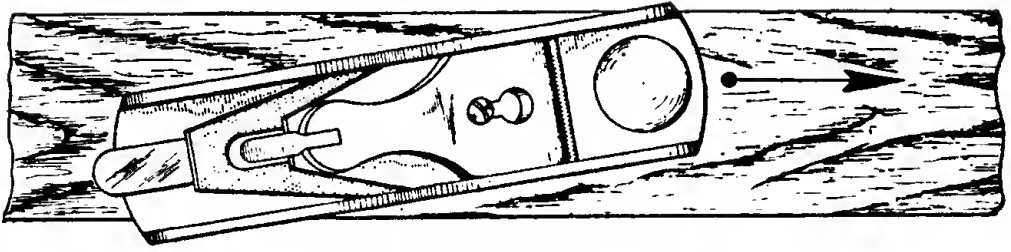

Figure 97. Position and direction of movement of a plane in use.
(2) A plane is used to smooth the surface of wood and work it down to a definite size. It is usually the last tool used before making a glue joint or sanding the surface in preparation for finishing. The plane is usually held at a slight angle to the direction of movement so that the blade will have a shaving effect. (See fig. 97.) This produces a smoother surface and makes the plane easier to push. Waxing the bottom of the plane will also reduce friction and make the plane easier to push. There should be no wax on the plane bottom when making a fine cut for a glue joint. When not in use, a plane is always laid on its side. The cutting edge of the blade then touches nothing and there is no danger of dulling